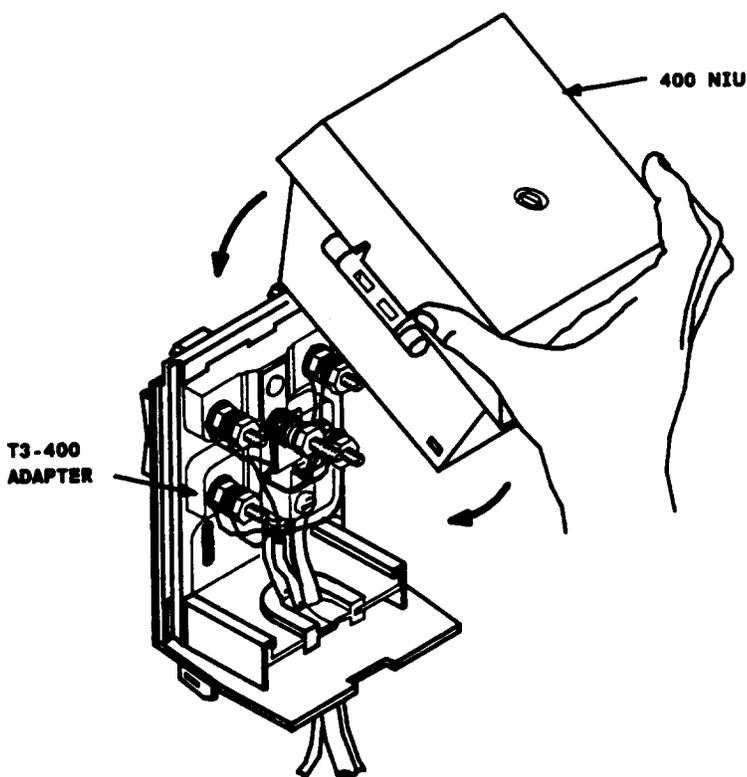

Figure 22. Installing 400 NIU onto Adapter
- (4) Install the 400 series NIU onto the T3-400 adapter. Hook the top of the 400 series NIU over the lip of the adapter. Then, push down and in on the 400 series NIU to snap it into place (Figure 22). Secure the NIU to the adapter with cable ties on each side.
- (5) Open the outside door of the 400 series NIU, using the 216 tool. Follow paragraph 5.02, Steps (3) through (9), for the installation and wiring of the 400 series NIU.